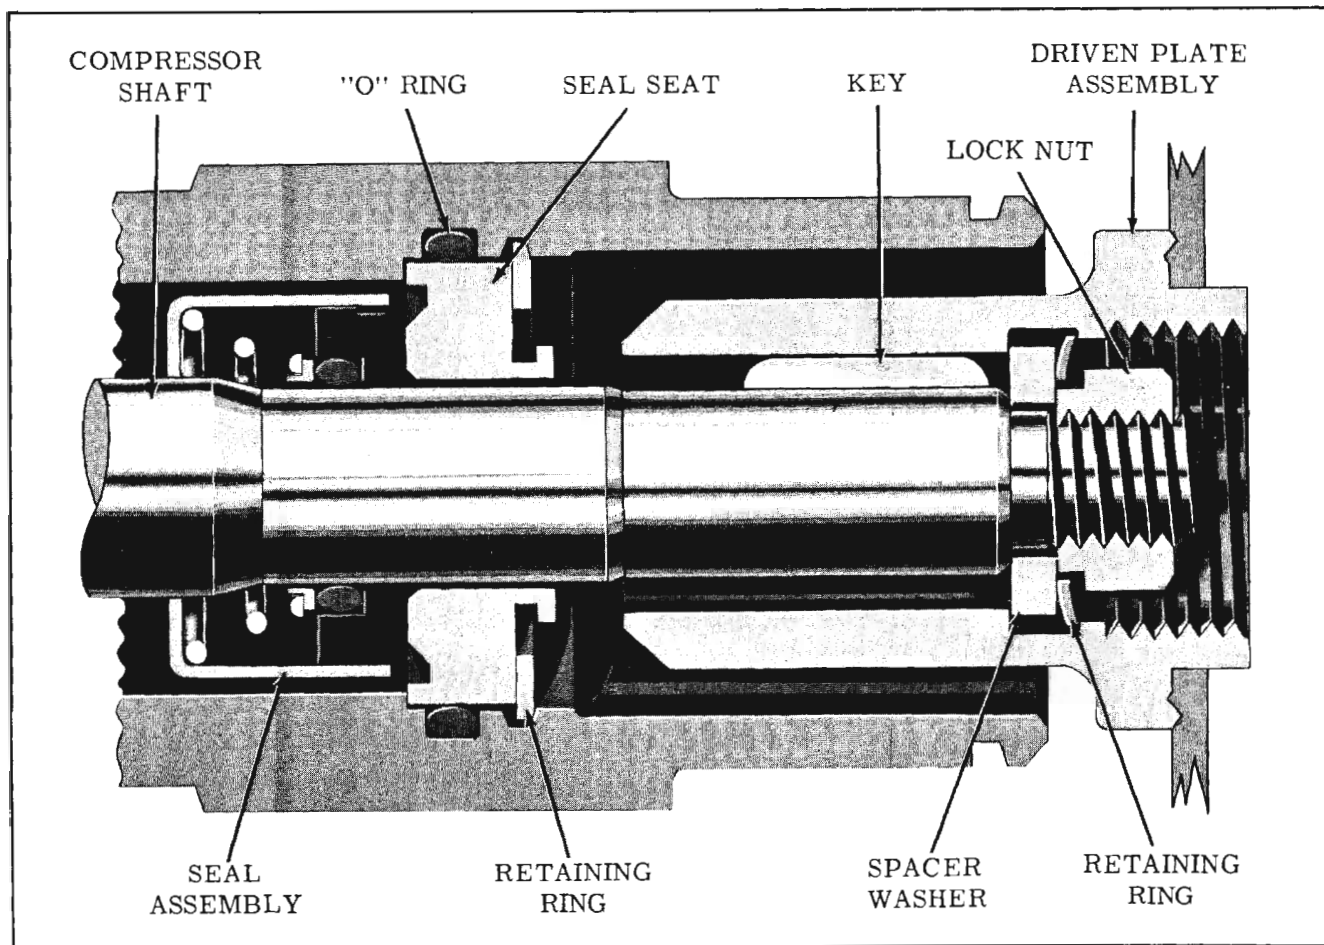

Fig. 15-59 Compressor Shaft and Seal
**COMPRESSOR SHAFT SEAL (Fig. 15-59) (TYPICAL OF F-85)**